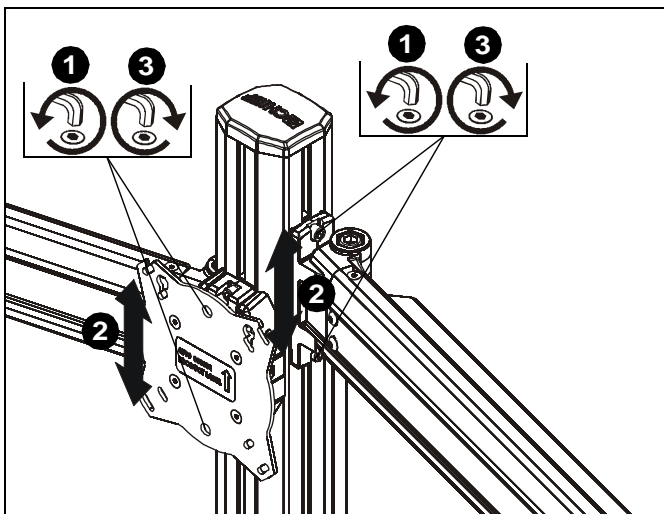

Figure 18
NOTE: Height adjustment for center displays should be set prior to installing display. Due to the location of the height adjustment screws for the center displays, the center displays will need to be removed in order to adjust the height. (See Figure 18)
- Loosen height adjustment screws for specific display that will be adjusted. (See Figure 18)
- Adjust arm or display to desired height. (See Figure 18)
- Tighten height adjustment screws to lock display's position. (See Figure 18)